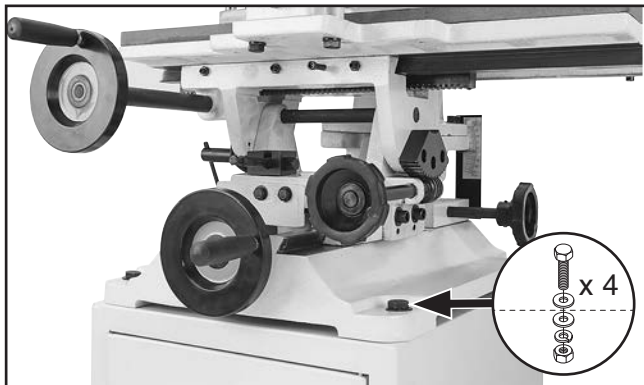

Figure 8. Mortiser secured to stand.
1. With help from two assistants, lift mortiser onto stand, and secure to stand using (4) M12-1.75 x 40 hex bolts, (8) 12mm flat washers, (4) 12mm lock washers, and (4) M12-1.75 hex nuts (see **Figure 8**).